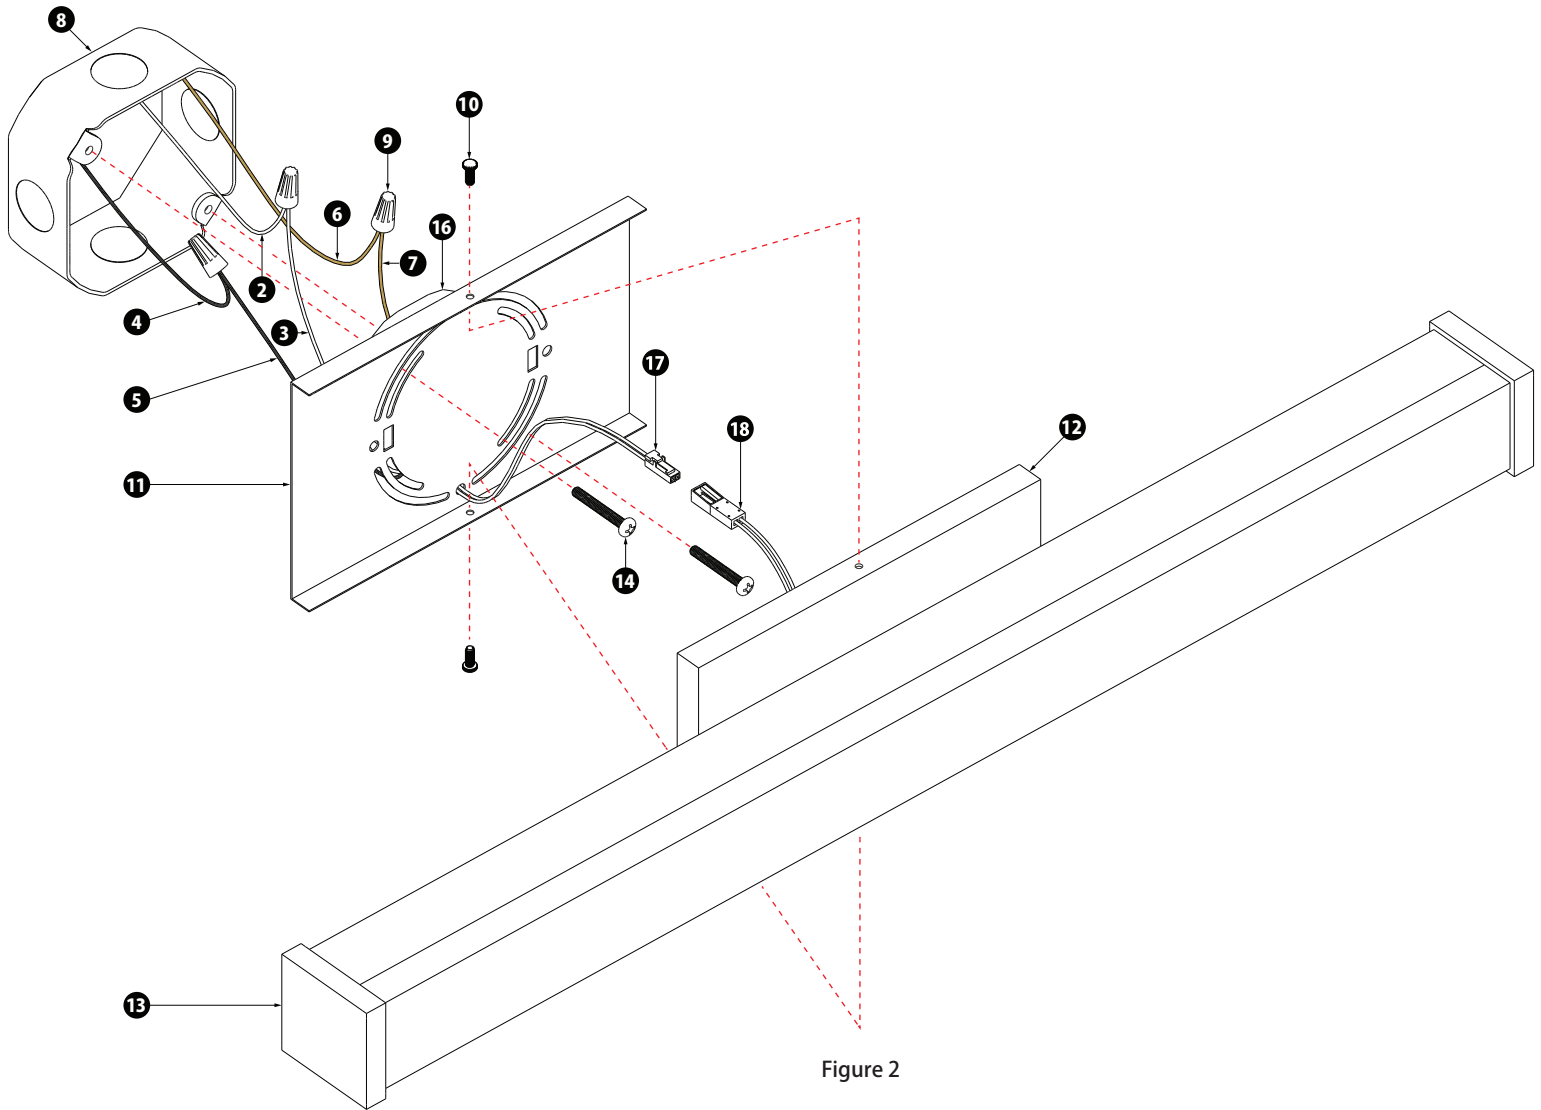

Figure 2
4. Using the wire connectors(9), connect the white supply wire(2) to the white fixture wire(3); connect the black supply wire(4) to the black fixture wire(5); and connect the house ground wire(6) to the fixture ground wire(7).
5. Carefully tuck all the wires back into the outlet box(8). (As shown in Fig.2).
6. Connect the white male micro connector(17) from the back panel(11) to the female micro connector(18) from the fixture pan(12).